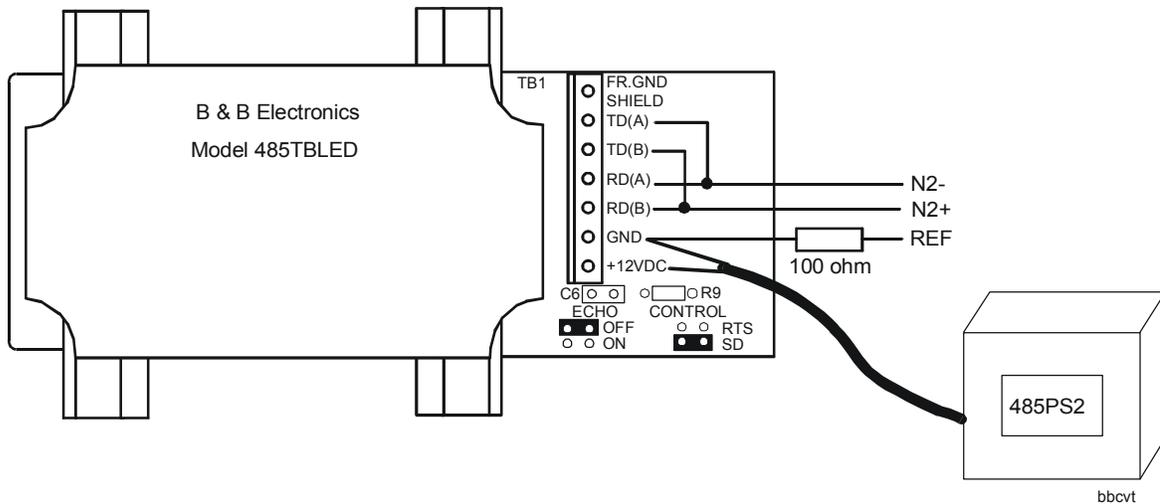

Figure 34: B & B Electronics 485TBLED Converter and 485PS2 Power Supply
1. Using Figure 34, insert one jumper in the CONTROL SD location and insert the other jumper in the ECHO OFF location. The SD position causes a timed internal RTS signal to be generated when the Transmitting Data (TD) signal is active.